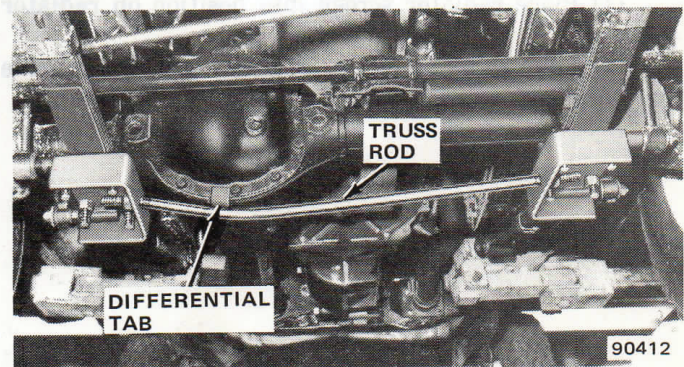

Fig. 17-3 Front Axle Truss Installation
- (1) Raise and support vehicle with safety stands.
- (2) Disconnect stabilizer bar on bottom only.
- (3) Disconnect shock absorbers from lower mounts.
- (4) Place a jack under left side spring and raise so that spring does not shift when tie plate is removed.
- (5) Remove spring U-bolts and tie plate.
- (6) Place truss rod through hole in bracket on left side and through hole on bracket for other side. Start large nuts on each end of truss rod. Be sure tab on truss rod mates with differential housing.
- (7) Repeat steps (5) and (6) on right side, centering rod tab on differential housing before tightening nuts on U-bolts.
- (8) Tighten nuts on U-bolts to 55 foot-pounds (75 N•m) torque.
- (9) Tighten large nuts on outside ends of rod 32 to 46 foot-pounds (43-62 N•m), being sure tab stays in position (fig. 17-3).